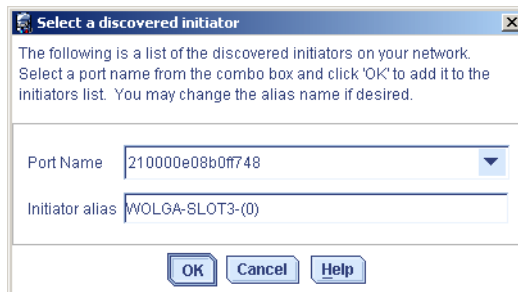

Figure 4-106 Discovered initiator
22. When new initiators are found, a dialog box opens with the discovered initiators. See Figure 4-106. Select a world wide port name (WWPN) from the **Port Name** drop down list. The default initiator alias is discovered-x. Assign a meaningful initiator alias to the initiator and click **OK**.